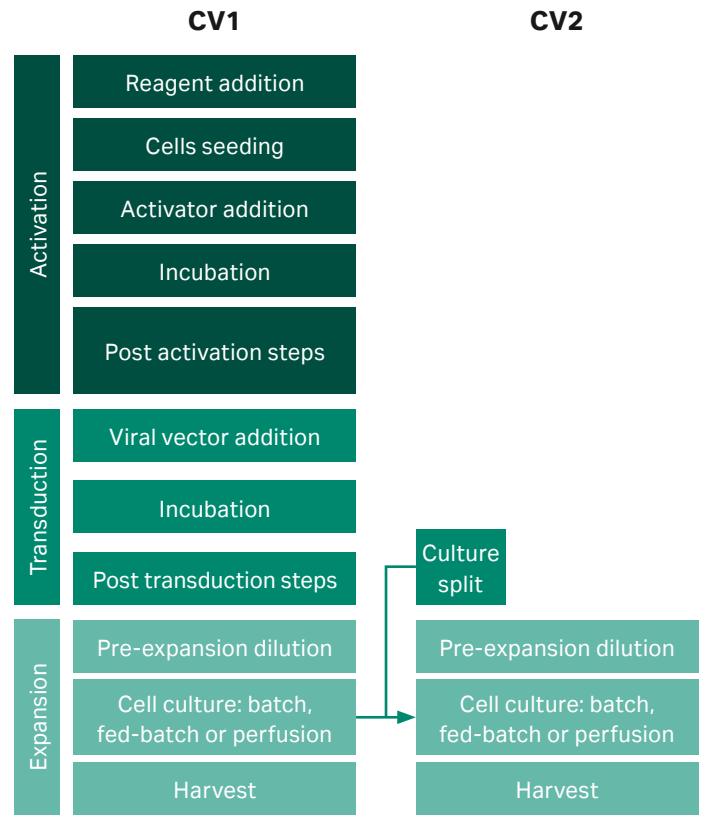

Fig 10. Example of workflow with parallel expansion step to optimize final cell number.
You can also use the two culture vessels (CV) for the cell expansion by moving a portion of the cells from CV 1 to CV 2 and perform a parallel expansion step to optimize the final cell number (Fig 10).